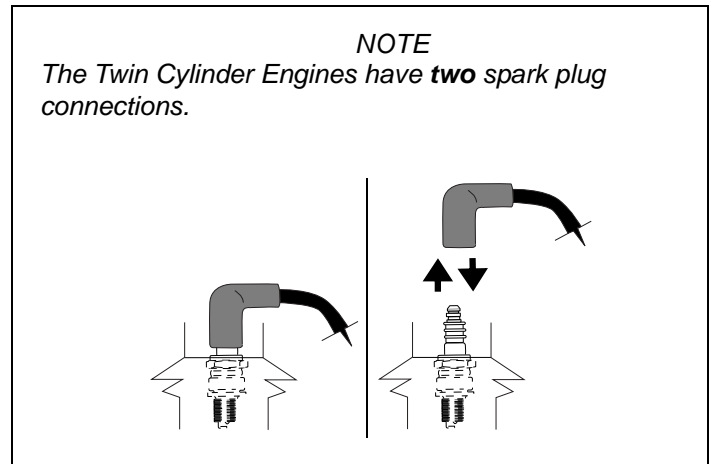

Figure 19. Disconnecting/Connecting Spark Plug
1. Carefully disconnect spark plug wires and keep them away from spark plugs. See Figures 19 and 20.